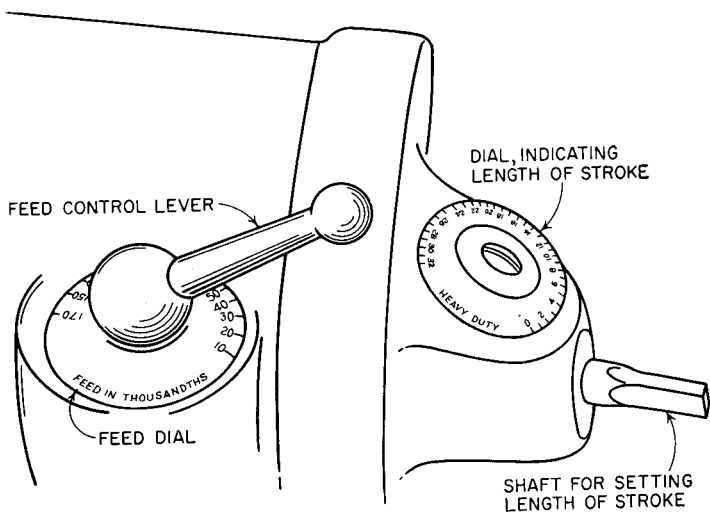

Fig. 2-35. Cincinnati stroke-adjusting shaft and feed dial. (The Cincinnati Shaper Company)
3. If the crank is not needed, turn the shaft until the required reading is registered on the stroke indicator dial (Fig. 2-35).